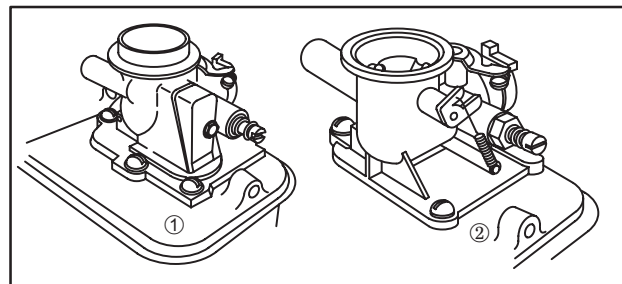

Fig. 218 - PULSA-JET CARBURETORS
There are two (2) basic types of Pulsa-jet carburetors used on above series engines. They are ① Automatic Choke, and ② CHOKE-A-MATIC®, Fig. 218.